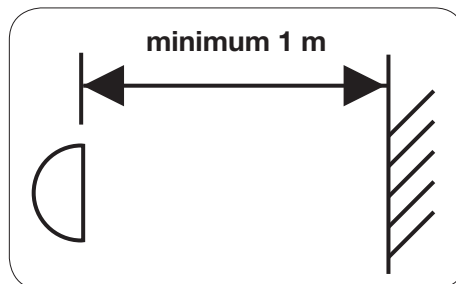

Fig.3
- Respect a minimum distance of 1 meter between the appliance and the object or surface which has to be lightened (fig.3).